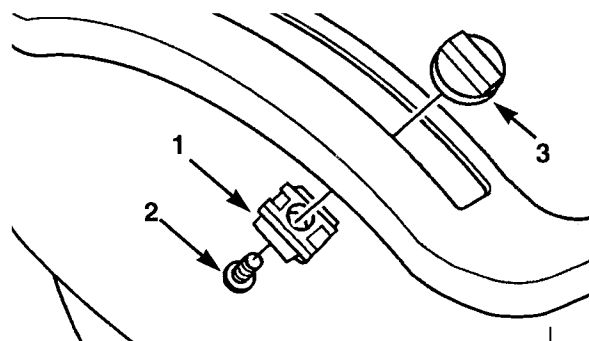

Figure 14
14. Install the lever stop, using a carriage bolt and knob (Fig. 14). Make sure the center of the stop fits up into the slot in the hopper.